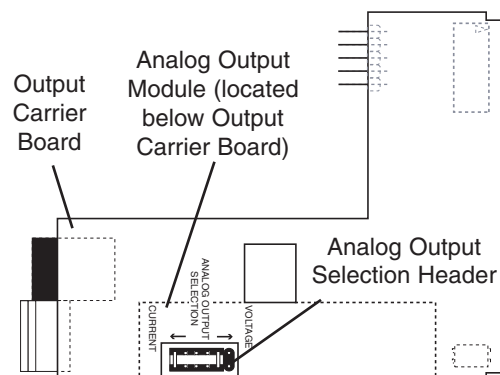

Figure 3 – Analog Output Selection Header Placement
- 1) See Figure 3. Make sure the ANALOG OUTPUT SELECTION HEADER on the analog output module is set in the appropriate position: VOLTAGE or CURRENT.